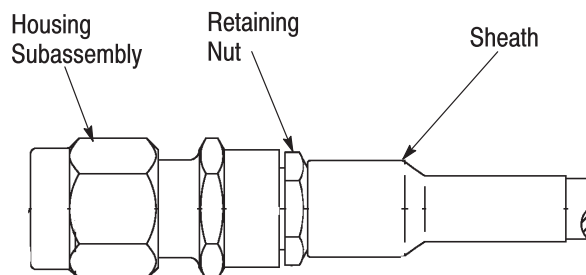

Figure 5
1. Carefully insert the center contact into the dielectric I.D. of the housing subassembly. See Figure 5.
3. Slide the sheath over the outer sleeve as shown in Figure 5.